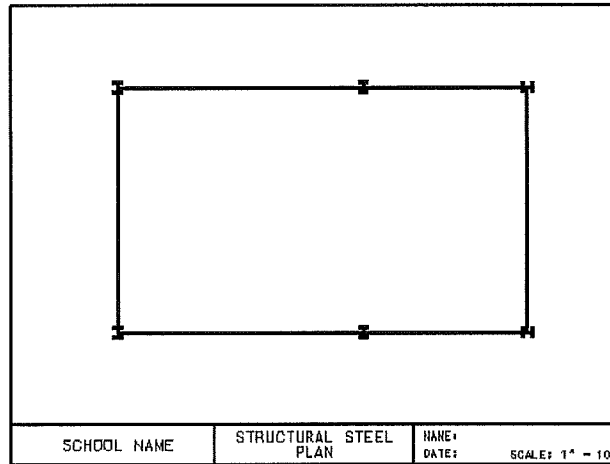

Figure P6-6 Result of placing a block for the outside structural members
STEP 2: In View Window 1, place a Block element with its lower left corner in the center of the lower left I-beam and its upper-right corner in the center of the upper-right I-beam, as shown in Figure P6-6.